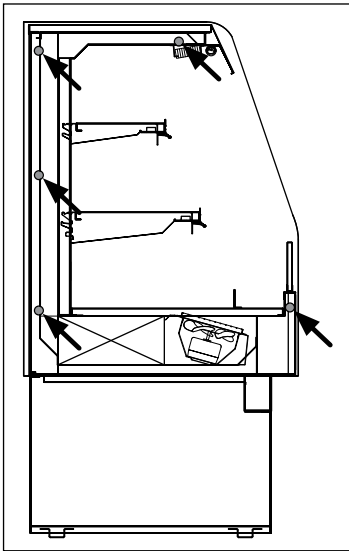

Fig. 5 Bolt locations (57-3/4 H)
4. Push the cases tightly together, then lightly bolt them together through the holes provided (Fig. 5 & 6). Tighten all the joining bolts until all margins are equal. Be careful not to over tighten.